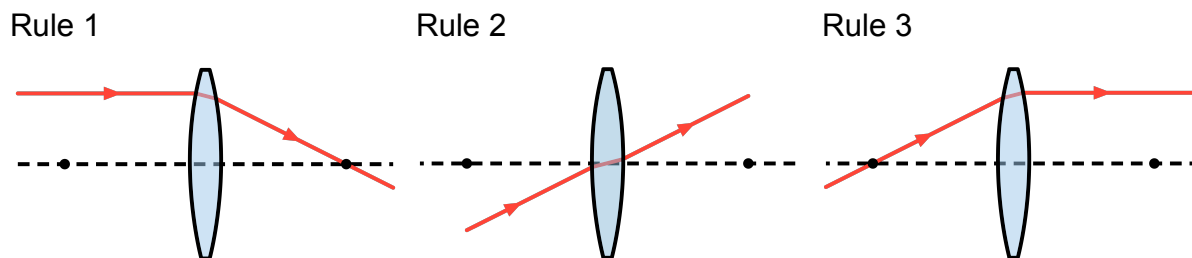

Figure 1: The basic rules of ray tracing for a simple lens.
Understanding how light propagates through optical elements can be well approximated by simplifying the light into lines called rays. This method is called ray tracing and is a fundamental concept in optics, where light-matter interactions are described by Snell's Law and rays are drawn along the optical system to give a good approximation of the optical behavior of a given system. The three rules of ray tracing for a simple lens are shown in Figure 1 and described below;
1. Rays parallel to the optical axis (the central line perpendicular to the lens surfaces) will focus at the focal point on the right side of the lens. Rule 1 in Figure 1.
2. Rays that pass through the center of the lens will continue in a straight line without deviation. Rule 2 in Figure 1.
3. Rays that pass through the focal point on the left side of the lens will emerge parallel to the optical axis. Rule 3 in Figure 1.